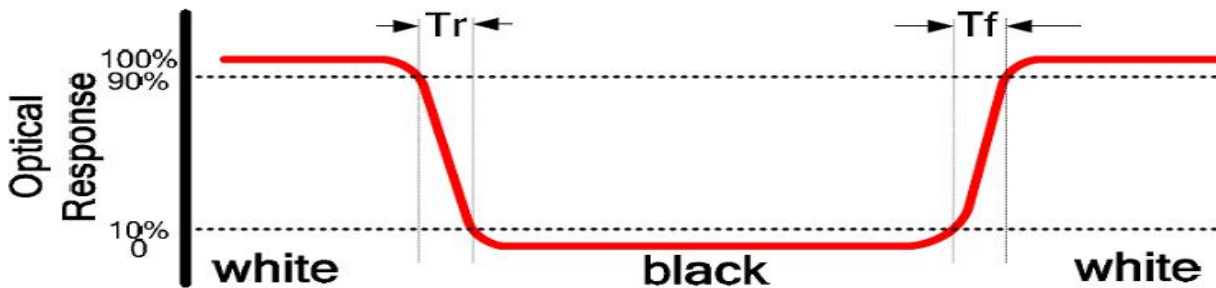

FIG2. Measuring method for Contrast ratio,surface luminance,Luminance
Note2.contrast Ratio(CR) is defined mathematically by the following formula ,For more information see FIG2.
Note5. Surface luminance is the LCD surface luminance with all white pixels,For more information see FIG2.